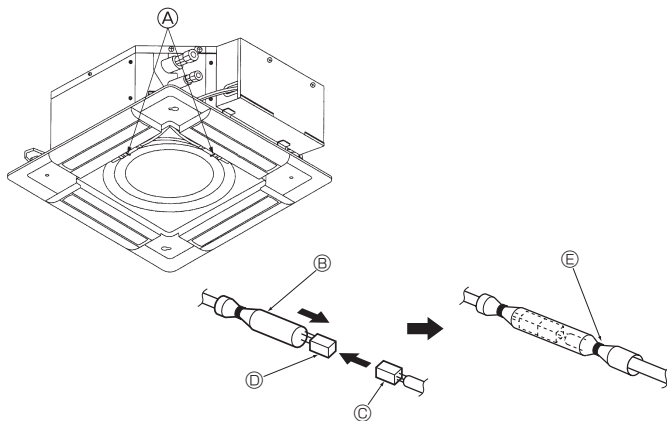

Fig. 7-8
7.3.4. Wire connection (Fig. 7-8)